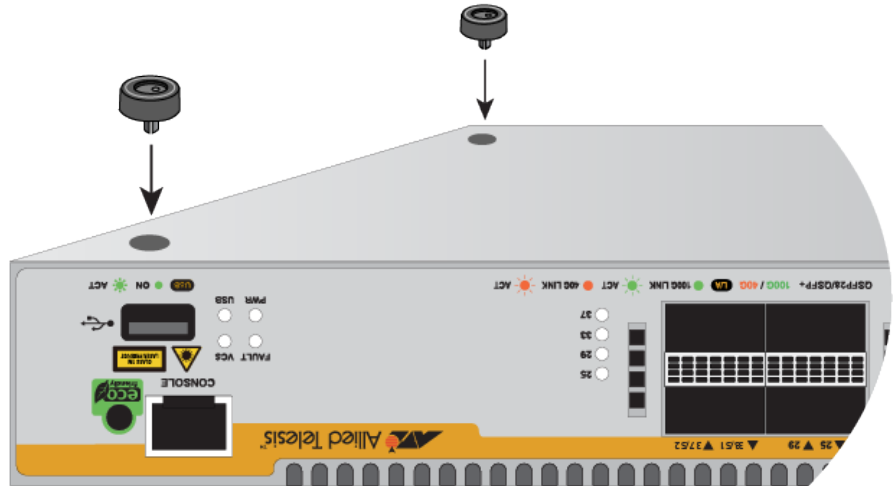

Figure 13. Placing the Bumper Foot Units on Base Corner Holes
4. Place a rivet housing and bumper foot unit onto a hole at each corner shown in Figure 13 on page -53. The switch has four holes.